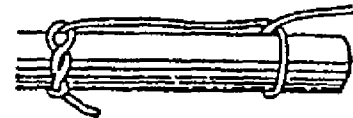

Fig. 3-33
- b. Close to the end of the spar, tie a single hitch. (Fig. 3-33)